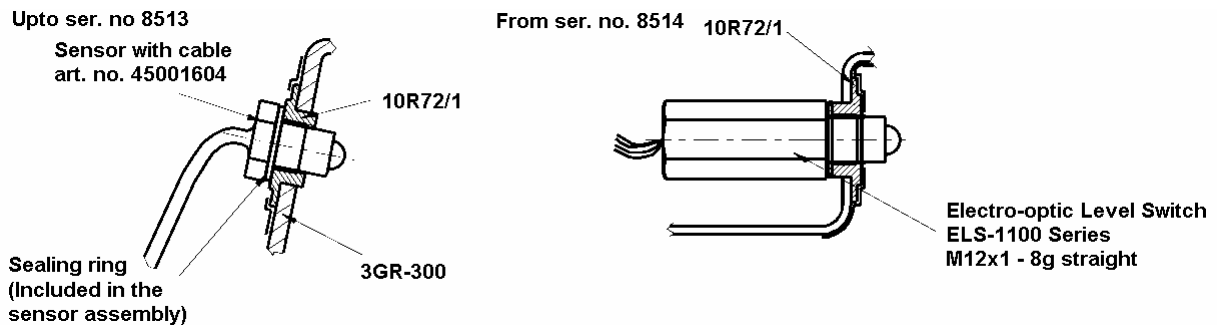

Figure 1
3. Identify which type of optical sensors is installed, see figure 1.
The ELS-1100 (Figure 1, right) is sensible to excessive air humidity and must be exchanged.